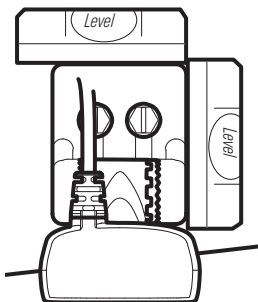

Figure 24
- Continue to adjust until the bracket is also level from port to starboard (horizontally level as you look at the transducer from behind the boat [Figure 24]).